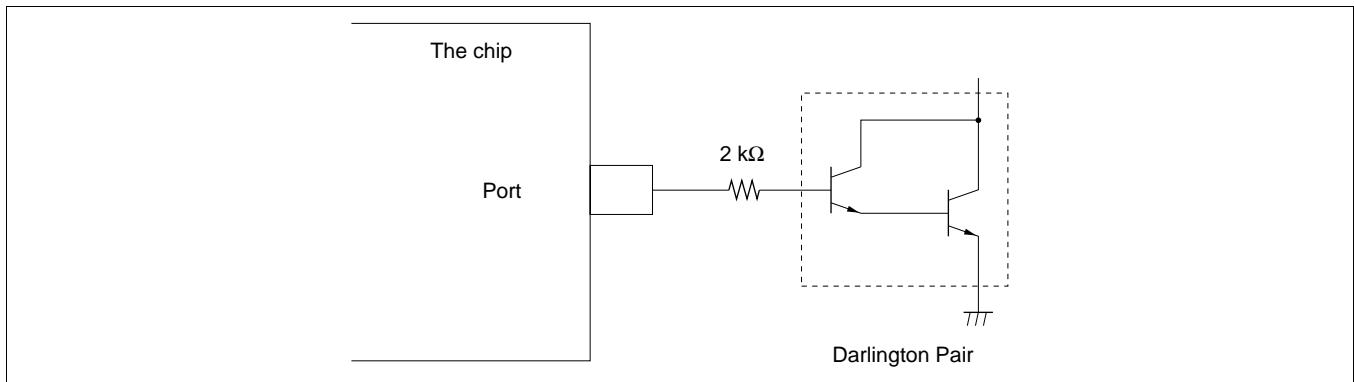

Figure 22-33 Darlington Pair Drive Circuit (Example)
- When driving a darlington pair or LED directly, always insert a current-limiting resistor in the output line, as shown in figures 22-33 and 22-34.